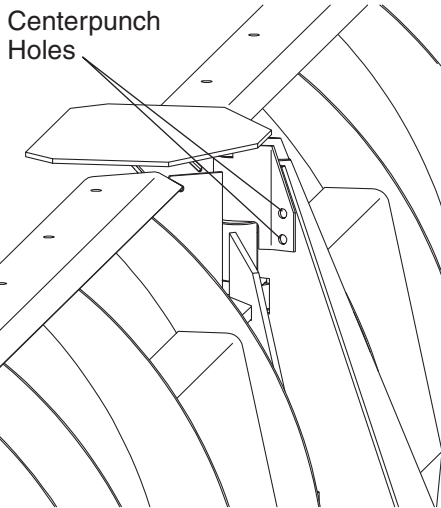

Figure 8
- Using the four holes on the center deflector, centerpunch holes in the A-frame. (See Figure 8.)